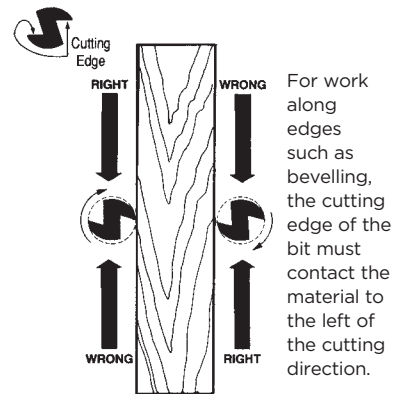

Figure 37-13: Routing Work Around Bevels and Moldings
- For work along edges such as bevels and moldings, make sure that the cutting edge of the router bit contacts the material to the **left** of the cutting direction (Figure 37-13). Otherwise the router will kick back or fly away from you.